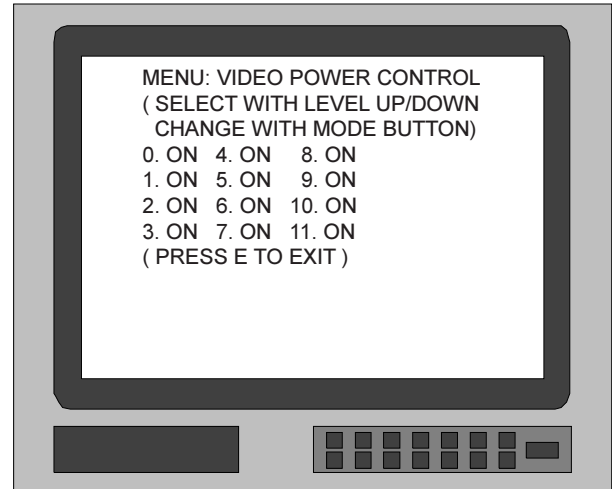

Figure 18
2. Press pushbutton number 6 on the Remote Control to access the VIDEO POWER CONTROL MENU, which will appear on the Monitor/TV screen. Refer to Figure 18.